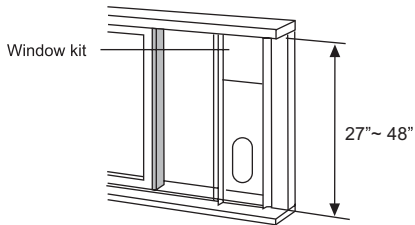

Fig.15
2. Attach the window slider kit to the window stool. Adjust the length of the window slider kit according to the width of window, shorten the adjustable window kit if the width of window is less than 27 inches (67.5 cm). Open the window sash and place the window slider kit on the window stool. See Fig.15.